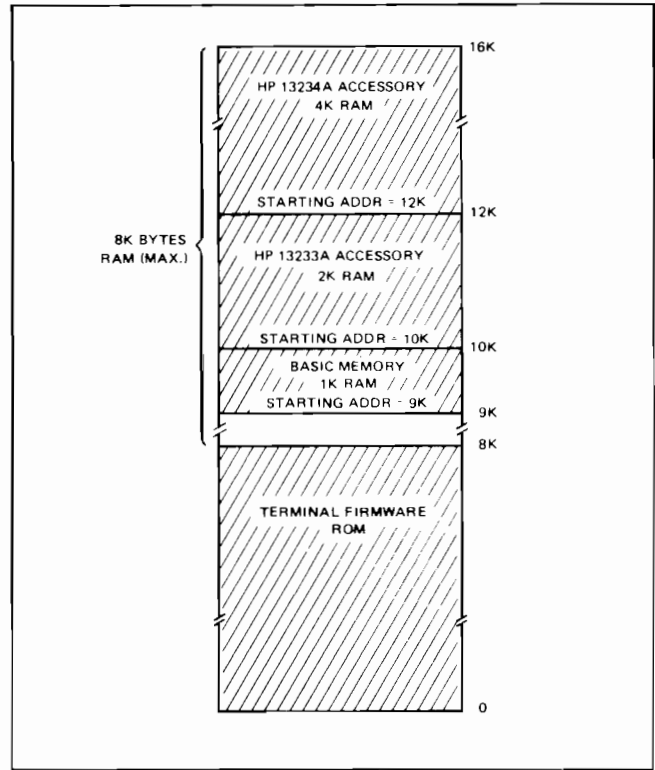

Figure 1-9. Typical Memory Map (7K)
- d. Using figures 1-9 and 1-10 as guides, arrange PCA starting address jumpers to select appropriate memory starting address for the size memory being configured.